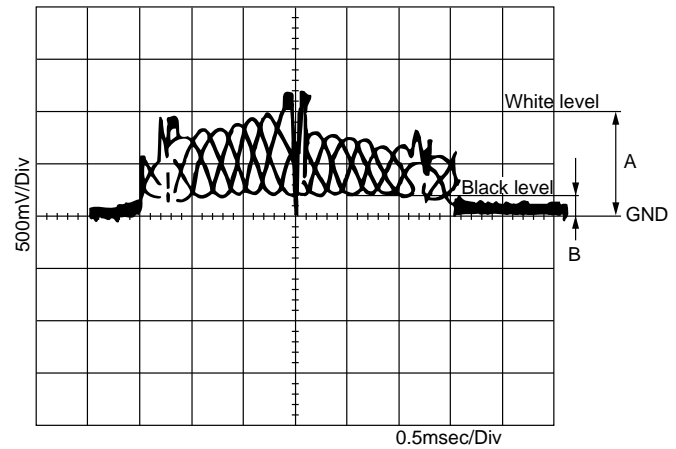

Fig. 2
- 6) Remove the lock paint of CCD board holding screws. Then loosen one screw at a time and adjust the location of the CCD board so that the CCD output is as shown in Fig. 2. Also ensure that the centre black level trough is delayed 528msec from the trigger sync signal FT (PHIT). See Fig. 5.
- 7) If after adjusting CCD output in step 6) scope reads the same as in Fig. 2 run a test copy. (Focus should be OK)
- 8) Remove the lock paint of lens. Adjust the location of the lens so that the difference between A and B of CCD output should be the largest, then secure the lens on that position. The output signal waveform must be symmetrical. After it has been complete, secure the screws with the lock paint. with this, lens focus adjustment is complete. (Fig. 2)